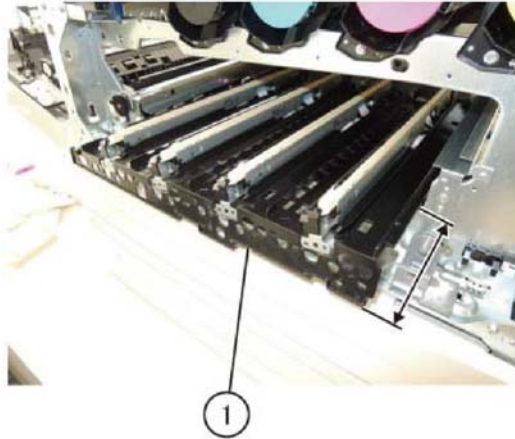

Figure 10 Marking guide
19. Pull out the marking guide (1) including the four LPHs by approximately 10cm (4 inches), Figure 10.